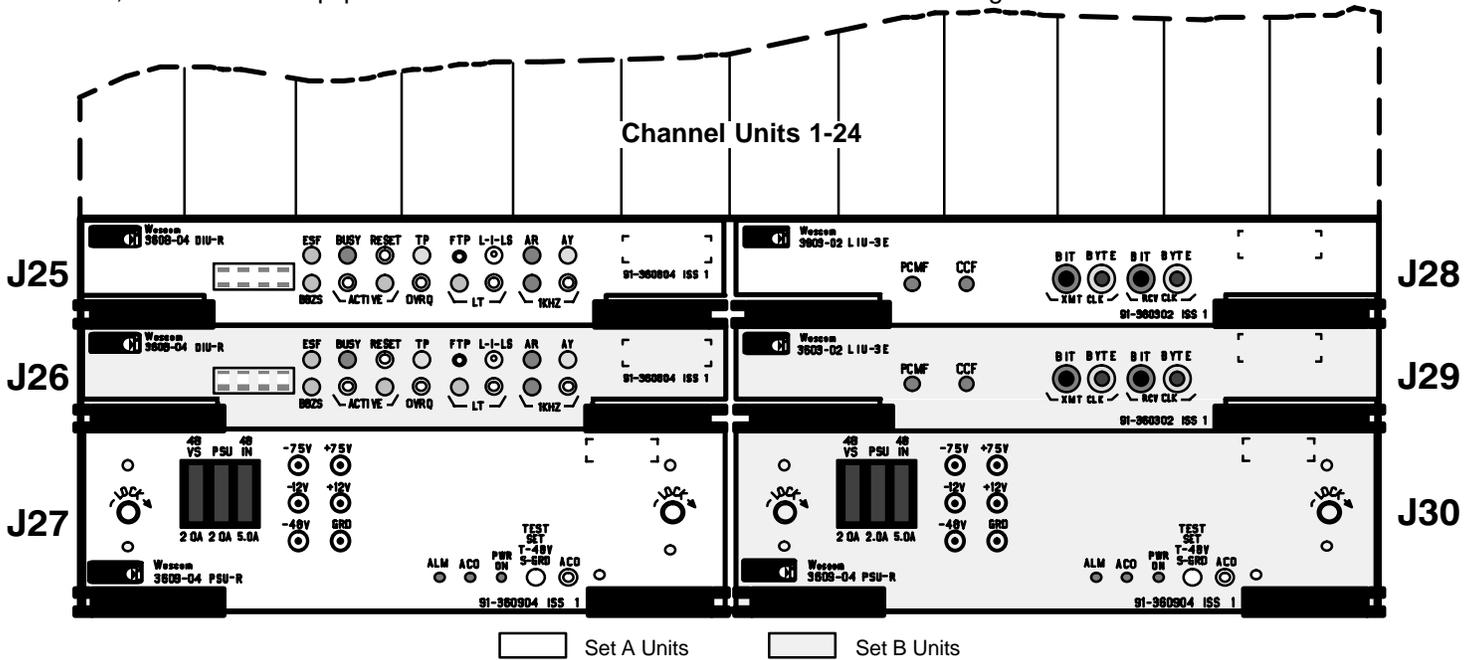

Figure 2. Front View 360-22 D4 Digital Carrier Terminal Common Equipment Locations
3.	Set the options on the 3609-04 PSU-R (refer to Section 360-904-201 for optioning information), verify that its front-panel fuses are in place, and then insert it into the position for the Set A PSU-R (J27). Verify that no fuses blow, that the PSU-R green PWR ON LED lights, and that the major alarm is activated. Refer to Figure 2 for mounting location of the PSU-R.
In this procedure you will install and turn-up the common equipment. The common equipment is divided into two sets, A and B. The equipment will be installed into the locations as shown in Figure 2.